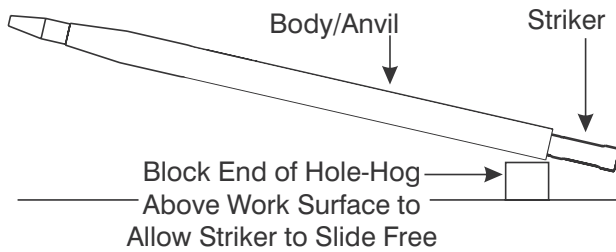

Figure 8-7. Tilting the Body/Anvil to Access the Striker.
5. Tip the Body/Anvil (1) so the end of the Striker (4) slides out of the Body/Anvil (1) about 6 to 8 inches. (Figure 8-7).